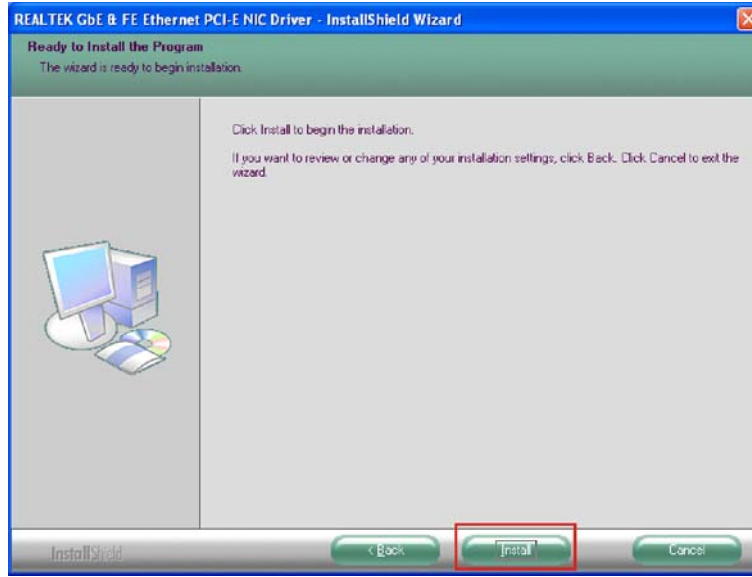

Figure 6-18: LAN Driver Welcome Screen
Step 4: The **Ready to Install** screen in **Figure 6-18** appears.